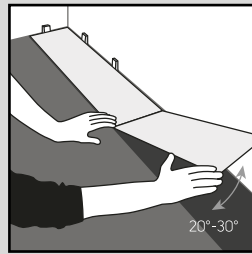

Fig. 2
- Install the first row, ensuring the short edges are clicked together (Fig. 2).